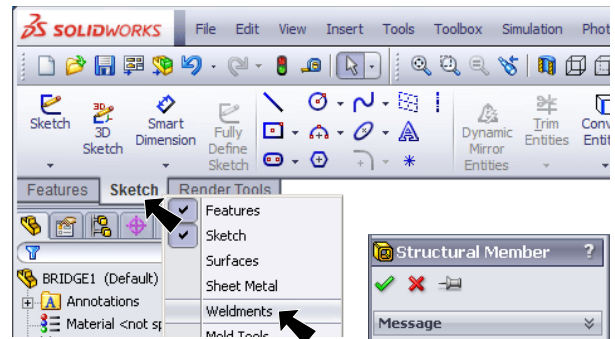

Fig. 11
Step 2. **Right click Sketch**  on the Command Manager toolbar and select **Weldments**, **Fig. 11**.